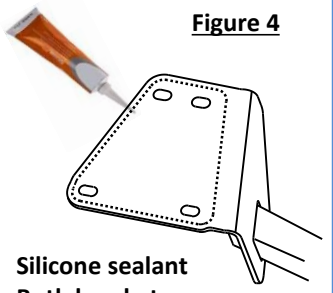

Figure 4
- 5. Install hitch** - apply silicone sealant to the hitch bracket mounting surfaces to prevent intrusion of water and exhaust fumes. **See figure 4.** Raise hitch and bumper beam into position aligning holes with weldnuts in the end panel. Sandwich the hitch between the bumper beam and end panel.
- 6. Install fasteners** – using a 13mm socket, install (8) M8 hex bolts, helical lock washers, and flat washers provided with hitch into weldnuts in end panel, (4) per side.
- 9. Reinstall wheel well trim and underbody panels** – reinstall (2) underbody panels using the original fasteners noted in step 1.